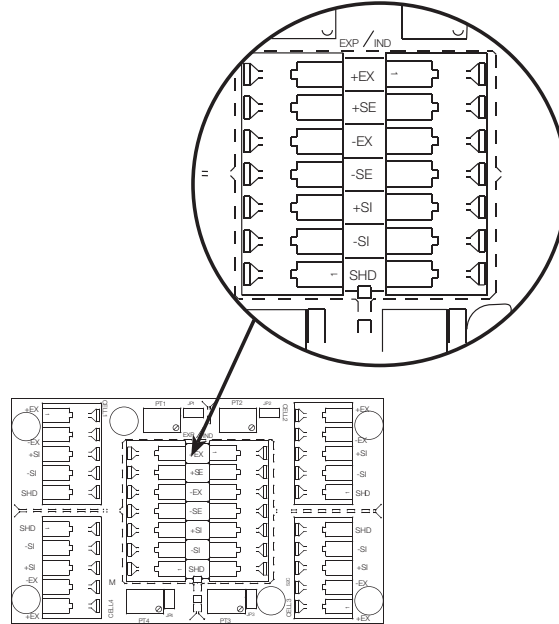

Figure 3-1. Expansion Port Wiring Location
1. Route the load cell cables through the cord grip assemblies and leave the grips loose until final closure. See Figure 3-1 and Table 3-1.